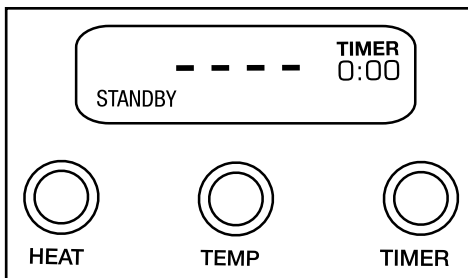

Figure 1
- 120 volt units are supplied with a molded 3-prong grounding-type plug and should be used in combination with a properly connected grounding-type outlet, as shown in Figure 1.
will flash (as seen in figure 1) when attempting to select a heat mode without an induction-ready pan on the glass cooking surface. The unit will automatically shut off after 60 seconds of not having an induction-ready pot/pan.